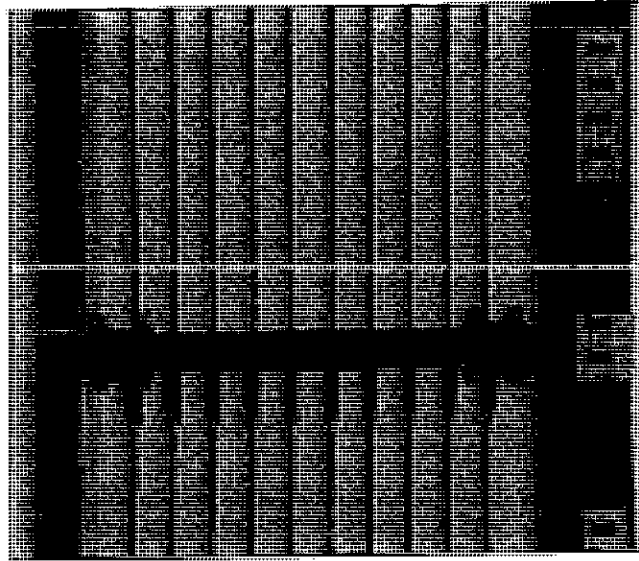
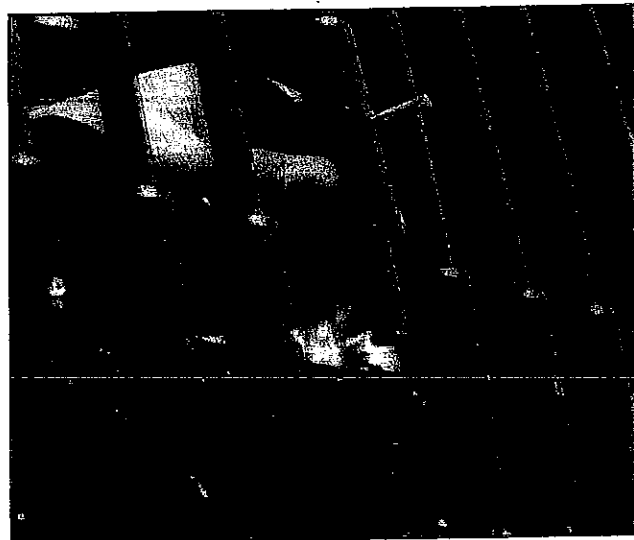

FIGURE 52 - WHEEL ELEVATOR JOINT
FIGURE 53 - ROD CONNECTOR INSTALLATION
Attach the two (2) wheel halves together with eight (8) 5/8" x 3 1/2" bolts and eight (8) rocker straps, **flat side towards nuts and bolt heads**. Make sure the side tabs interlock properly (four places) where the halves join (see Figure 52).
IMPORTANT: Make sure the rail that rides on the rollers is aligned end to end when bolting the halves together. Use C-clamps or similar device to align the rails (see Figure 52). It may be necessary to grind rail ends to insure alignment of halves.
Install the rod connectors between the two wheel halves as shown (see Figure 53). Free the wheel and turn the wheel manually through one or two revolutions to make sure nothing is interfering with it. Adjust the right-hand rollers so they are about 1/8" away from the drive band of the wheel elevator at its closest point. Install tabs in chain slots (see figure 52).